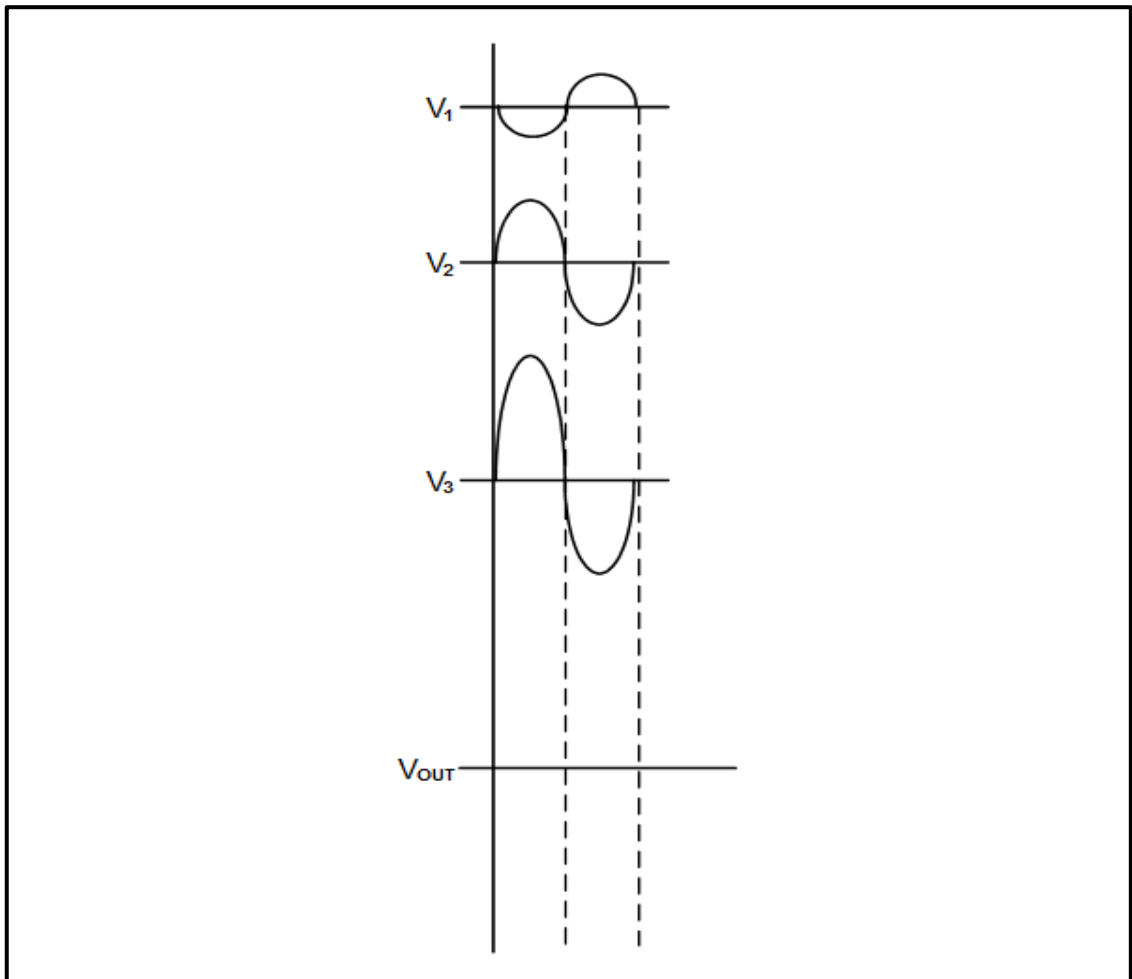

FIGURE 7.11: INPUT WAVEFORMS OF AN INVERTING SUMMING OP AMP
- 7.11 Redraw the input waveforms of an inverting summing op amp in FIGURE 7.11 below in the ANSWER BOOK and directly below them, on the same y-axis, draw the output waveform.